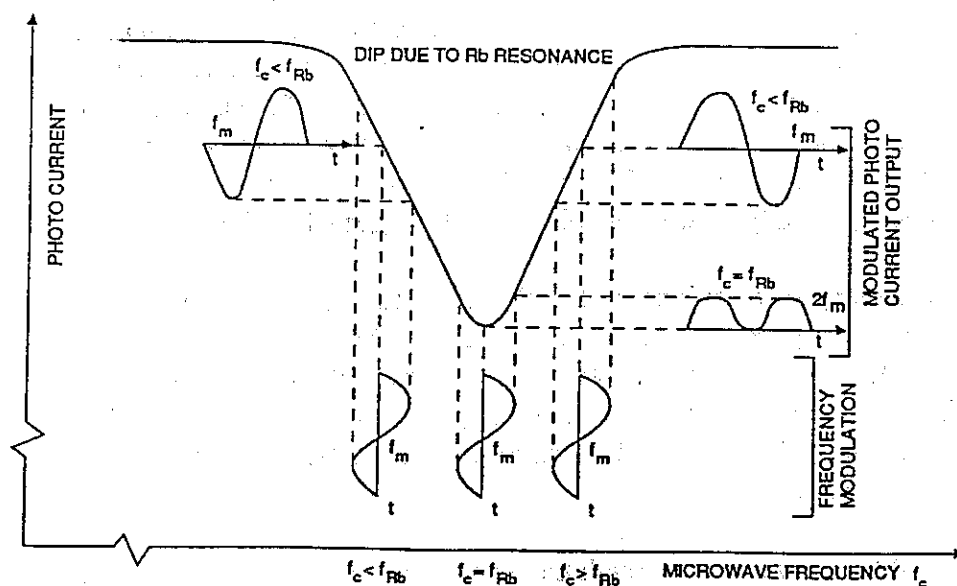
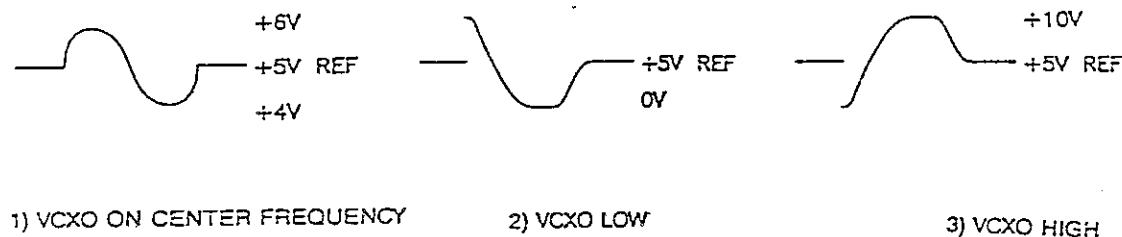

Figure 3-3. Derivation of Modulation Signal
FIGURE 3-7. TP1 Phase and Amplitude Indications.
RUBIDIUM LAMP. Light from the rubidium lamp is generated by an rf-excited plasma discharge. Rubidium in the lamp is heated to a vapor state (approximately 106°C) and subjected to a high-energy rf field. This rf field causes a plasma discharge which produces rubidium light of the proper wavelength. The light passes through rubidium vapor contained in the resonance cell, where some of the light is attenuated. The remaining light is incident upon a silicon photo detector (photocell) within the resonator cavity. When the applied microwave frequency (f_c) is equal to the hyperfine frequency, f_{Rb} , the rubidium atoms resonate with the microwave field in the cavity, causing the light reaching the photo detector to decrease. This decrease in light intensity is made possible by the simultaneous interaction of rubidium light and microwave energy, a process called "Optical Pumping". (This behavior is illustrated by the V-shaped curve in Figure 3-3.)
When the microwave frequency (f_c) in the resonator is exactly equal to the hyperfine frequency (f_{Rb}), the 127 Hz modulation varies the microwave signal around the center of the absorption curve, resulting in a modulation of the photocell current at twice the modulation frequency, or 254 Hz (Figure 3-3). It is this 254 Hz signal which is used to generate the lock indicator signal. The lock indicator signal is the primary indicator that the unit is operating normally. If the microwave signal, f_c , which is synthesized from the 20 MHz VCXO, drifts off the hyperfine frequency, f_{Rb} , the photocell output reverts to the fundamental 127 Hz rate. The phase of the 127 Hz indicates if f_c is above or below f_{Rb} and this phase information is used to move the VCXO frequency in the proper direction until f_c again equals f_{Rb} .
c. **SYNCHRONOUS DEMODULATION.** The amplified modulation signal received at U3, pin 3 is subsequently demodulated at a 127 Hz rate. See Figure 3-3, f_m . The resulting demodulated output (U3, pin 4) can be observed at TP1 on the flex board. See Figure 3-7. The TP1 output signal is the result of synchronous demodulation and contains both phase and amplitude information, indicating whether above, below or "on" the rubidium frequency. The further amplified signal received at U3, pin 2 is demodulated at a 254 Hz rate. See Figure 3-2, $2f_m$. The resulting output (U3, pin 15) is a positive 1/2 cycle of the 254 Hz, $2f_m$.